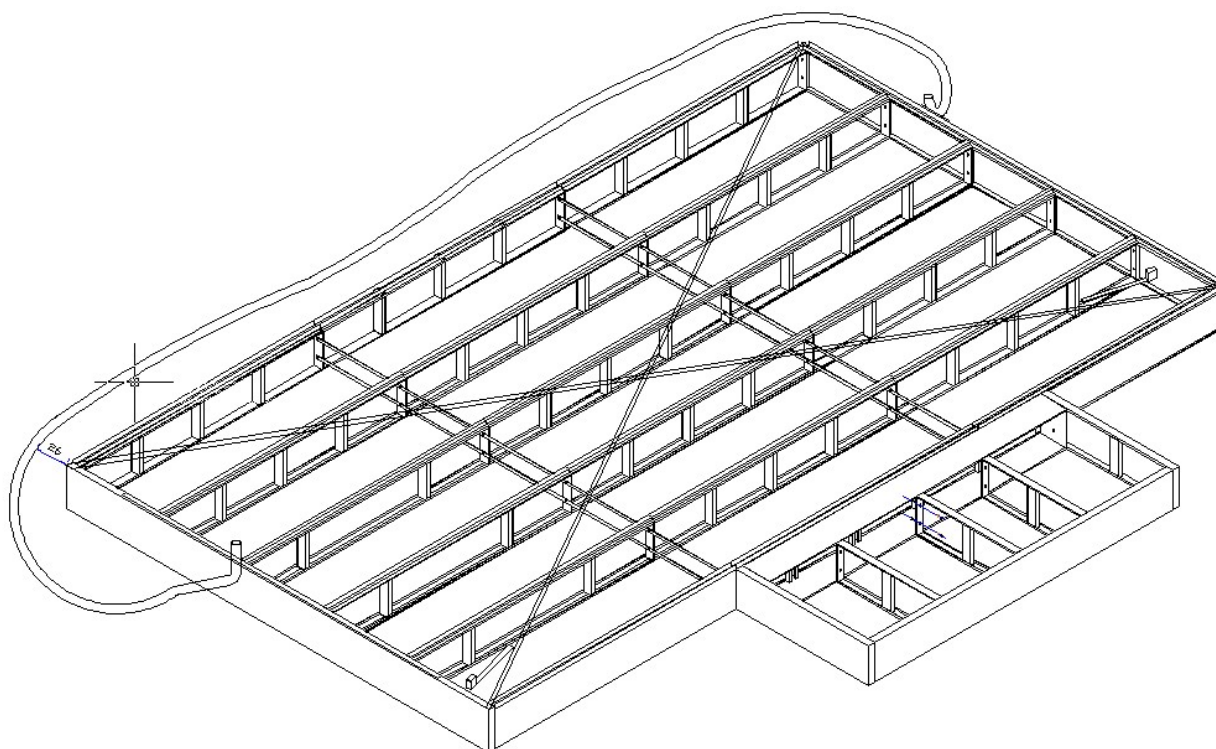

Fig. 3.5
2. Adjust the level of the connect point: find the highest point with the level measure apparatus, then elevate other points with something. Shown in Fig.3.5
3. Adjust the uprightness: adjust the side boards and middle bracket with beeline, and distribute the distance between the rows, so that we can put the grids easily. Shown in Fig.3.5.
4. Check that all the longitudinal pieces have been mounted perfectly perpendicular to the end heads, to do this measure the two diagonals between the corner of the anterior end head and the opposite corner of the anterior end head, if they show the same values we are certain that it is assembled correctly. and the error value should be less than 5mm (shown in Fig.3.5).
5. Installate the bottom of the heat-air generator: the air out mouth should be connect with the metal sides board. (shown in Fig.3.5)